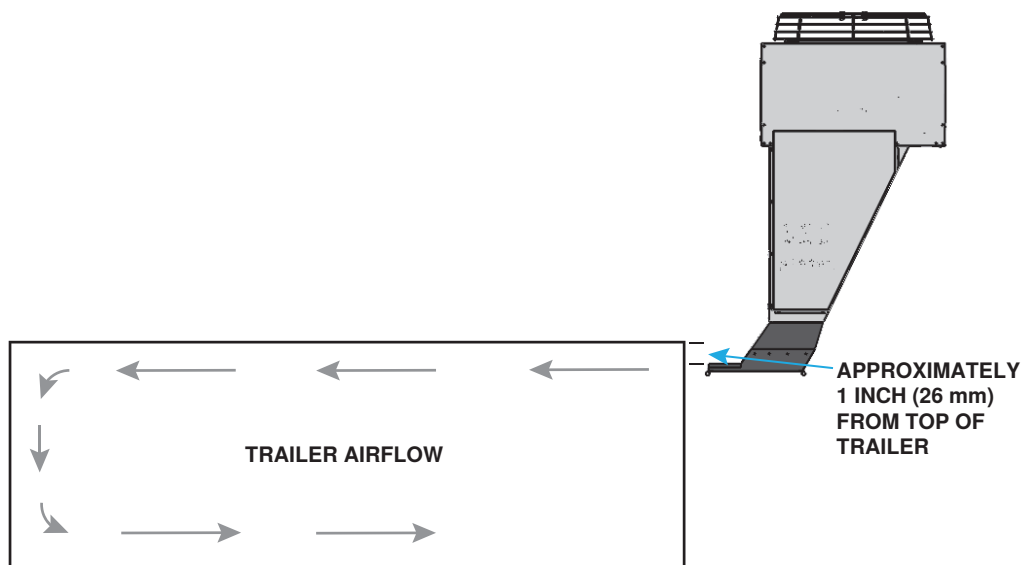
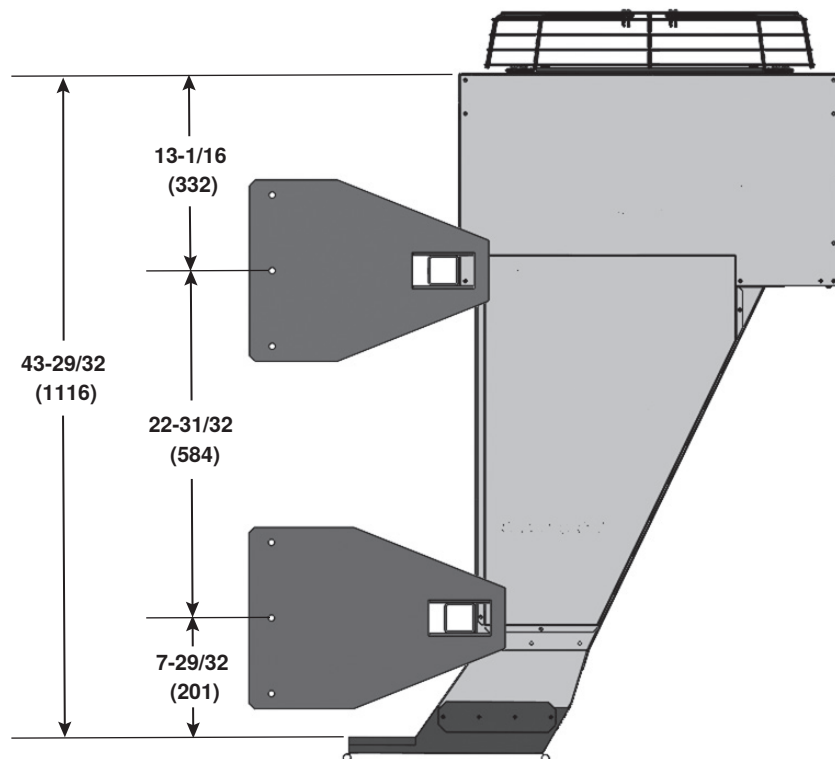

Figure 2. Unit Location
Figure 5. Determining Unit Location
3. Determine unit location so that top of canvas discharge nozzle will be approximately 1 inch (26 mm) below top of docked trailer door opening (see Figure 2). Refer to Figure 5 for mounting hole dimensions.